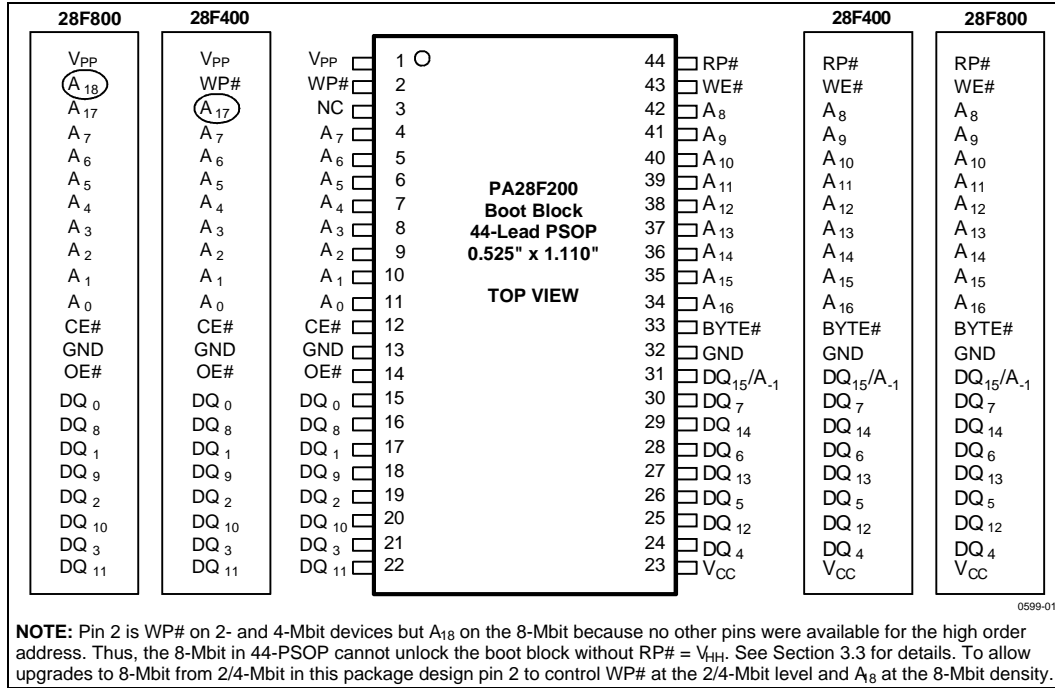
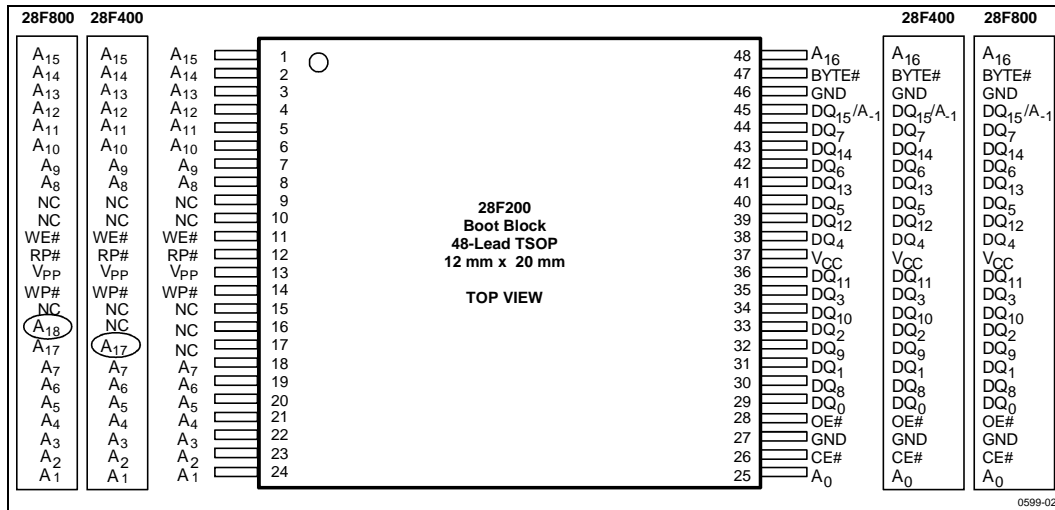

Figure 1. 44-Lead PSOP Pinout Diagram
Figure 2. 48-Lead TSOP Pinout Diagram
-002	Minor changes throughout document. Section 3.1.5 and Figure 14 redone to clarify program/erase operation abort. Information added to Table 2, Figure 1, and Section 3.3 to clarify WP# on 8-Mbit, 44-PSOP. Read and Write Waveforms changed to numbered format. Typical numbers removed from DC Characteristics and Erase/Program Timings.
-003	Minor text changes throughout document. Figure 1, 44-PSOP pinout: mistake on pin 3 on 2-Mbit pinout corrected from A ₁₇ to NC. Specs t_{EHQZ} and t_{GHQZ} improved. Explanations of program/erase abort commands reworked in Table 6, Command Codes.
These Smart 5 memory products are available in the 44-lead PSOP (Plastic Small Outline Package), which is ROM/EPROM-compatible, and the 48-lead TSOP (Thin Small Outline Package, 1.2 mm thick) as shown in Figure 1, and 2, respectively.
Intel's Smart 5 boot block architecture provides upgrade paths in each package pinout up to the 8-Mbit density. The 44-lead PSOP pinout follows the industry-standard ROM/EPROM pinout, as shown in Figure 1. Designs with space concerns should consider the 48-lead pinout shown in Figure 2. Applications using an 8-bit bus can use the 40-lead TSOP, which is available for the 4-Mbit device only.